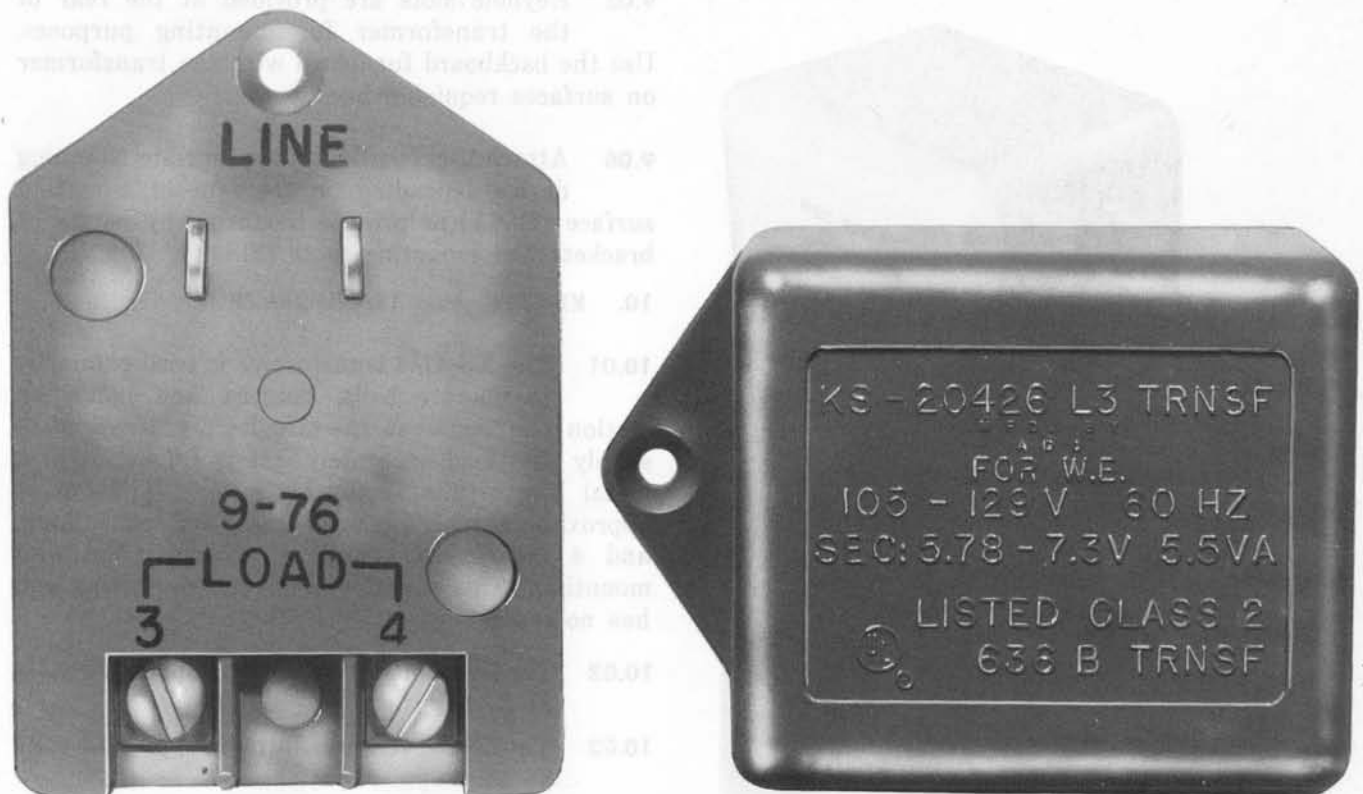

Fig. 14—KS-20426 Transformer Equipped With Molded Mounting Tab
**5.03** Some transformers are provided with a mounting tab which is used to hold the transformer securely in the receptacle by using the outlet cover screw. See Fig. 14.